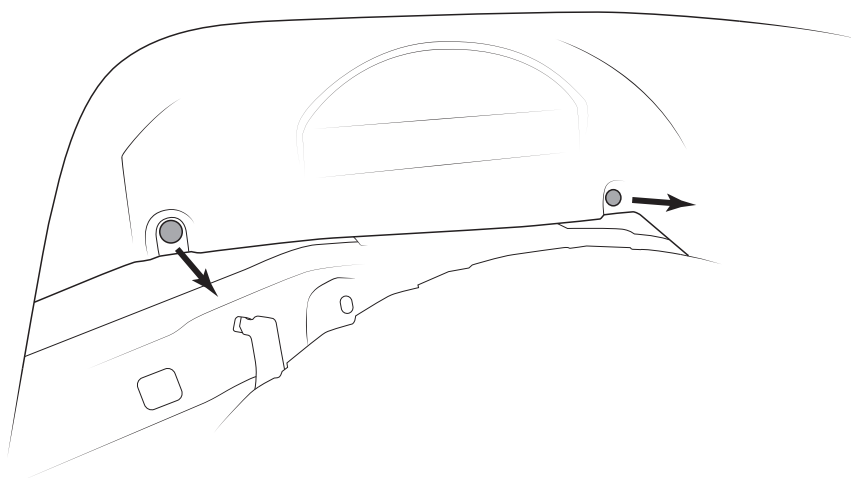

Figure 2
1. Carefully pry the two (2) fasteners holding inner fenders to bed (fig. 2).